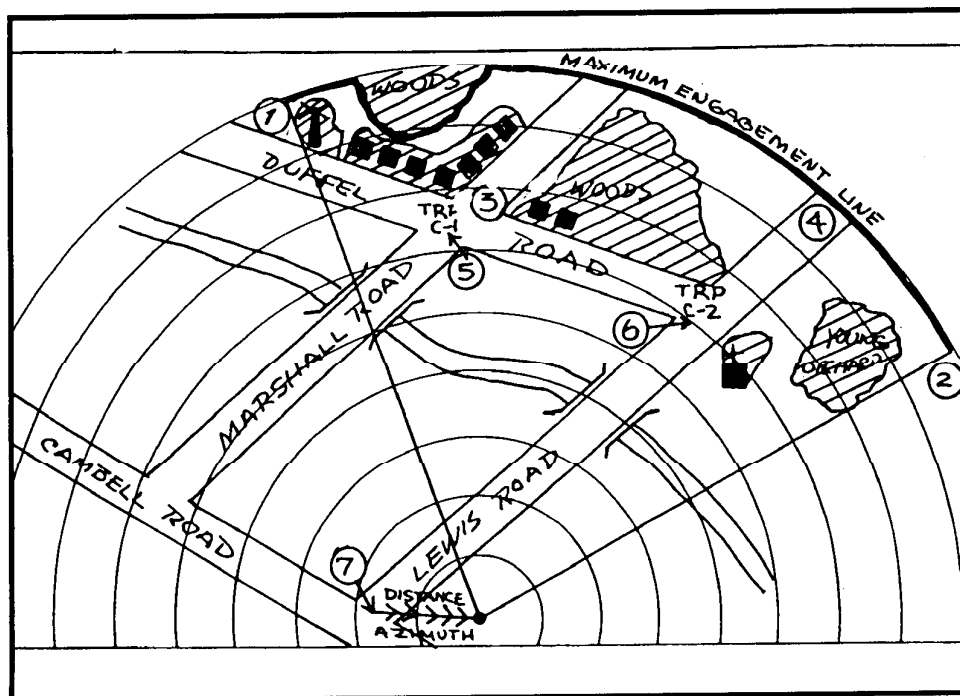

Figure E-8. Placement of distance and azimuth from a known point.
g. Use a compass to determine the azimuth from the firing position to the known point. Convert the direction to a back azimuth. Draw a line with multiple arrows from the known point to the firing position. Place a number at the known point and circle the number (Figure E-8, page E-7).